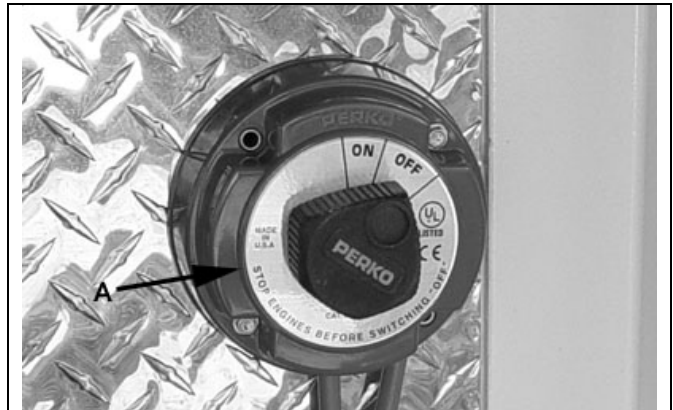

Figure 6-1 – Two Position 12 Volt Disconnect Switch
Your trailer can be equipped with a two position (A) or a four position (B) 12 volt disconnect switch. The switch is located near the battery box. See figure 6-1 and 6-2.